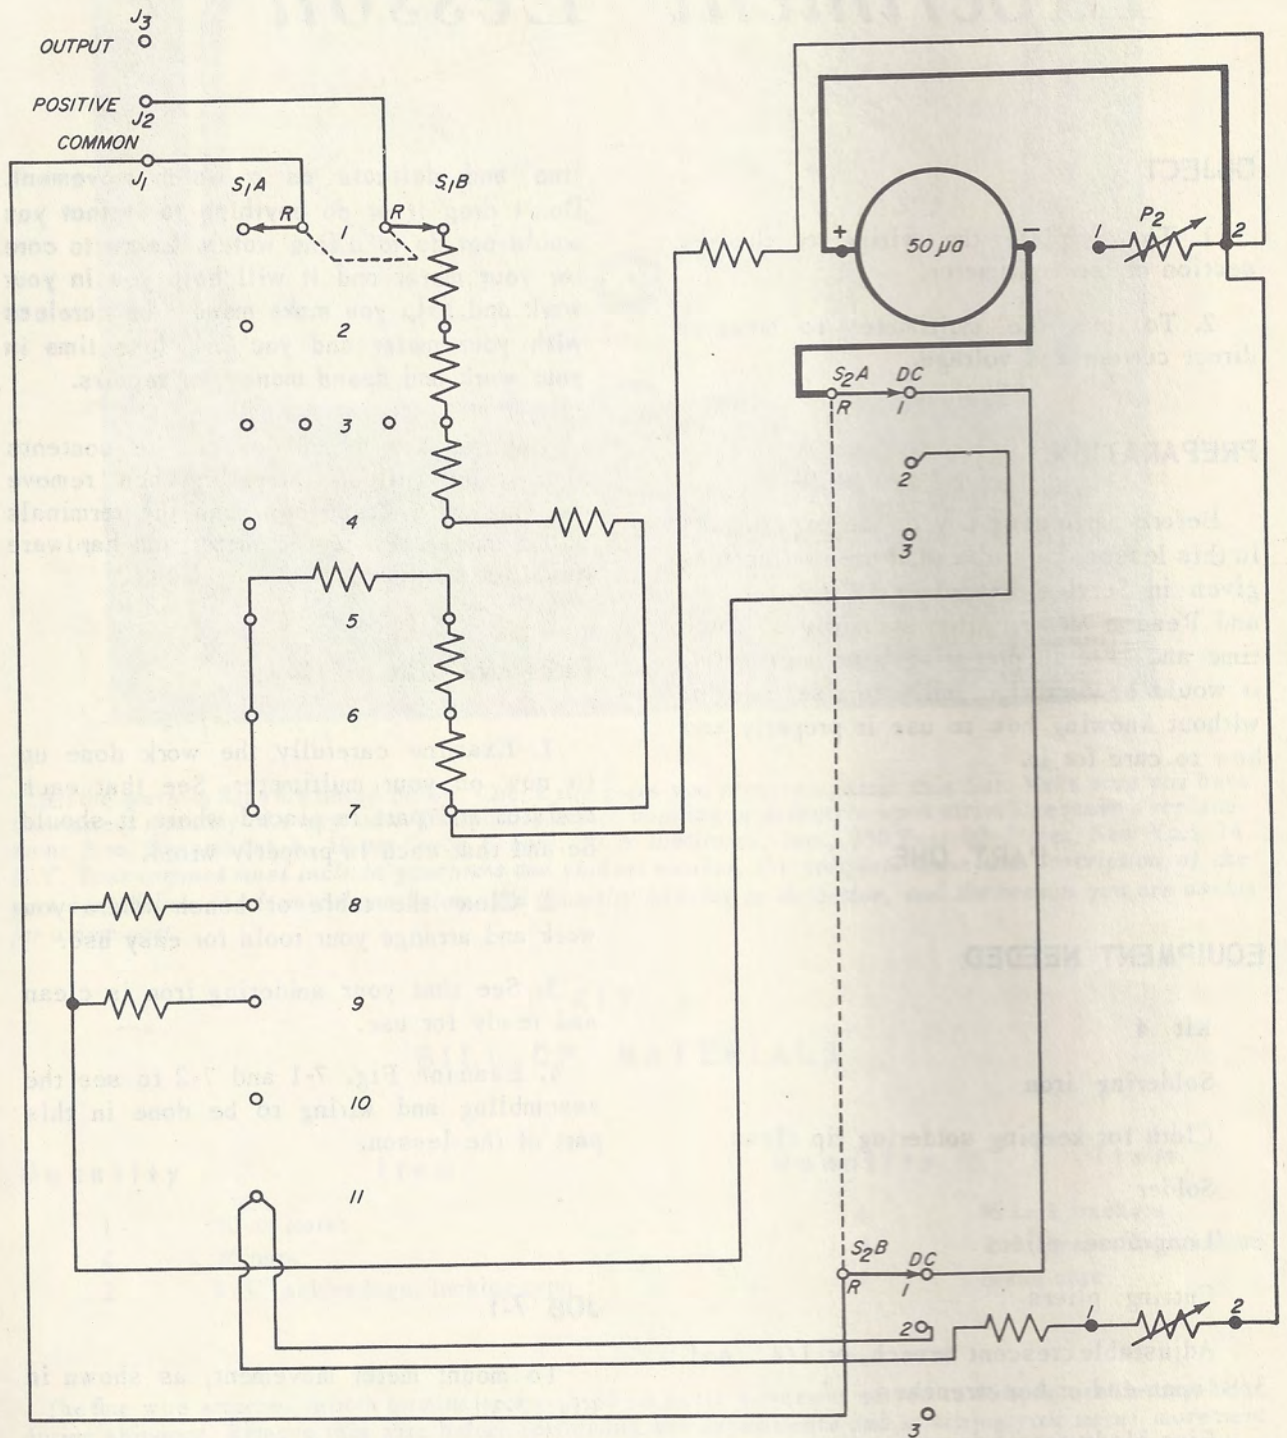

Fig. 7-1 Meter Connections to be Made in This Lesson
4. Examine Fig. 7-1 and 7-2 to see the assembling and wiring to be done in this part of the lesson.